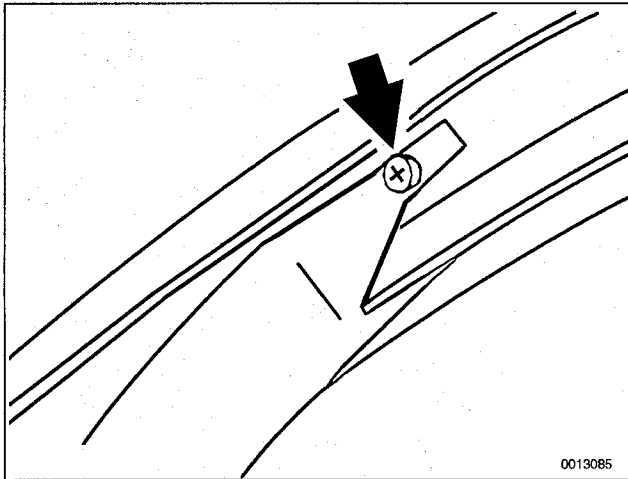

Fig. 8. Remove guide rail screw (A) and move rail aside.
- Remove guide rail screw at top and move rail aside enough to slide glass forward and out of door frame. See Fig. 8.